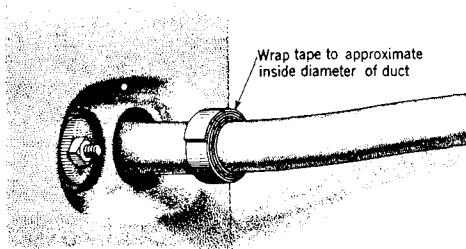

Fig. 2 — Completed Wrap
- (2) Wrap the tape to a diameter such that it will just enter the duct (see Fig. 2).